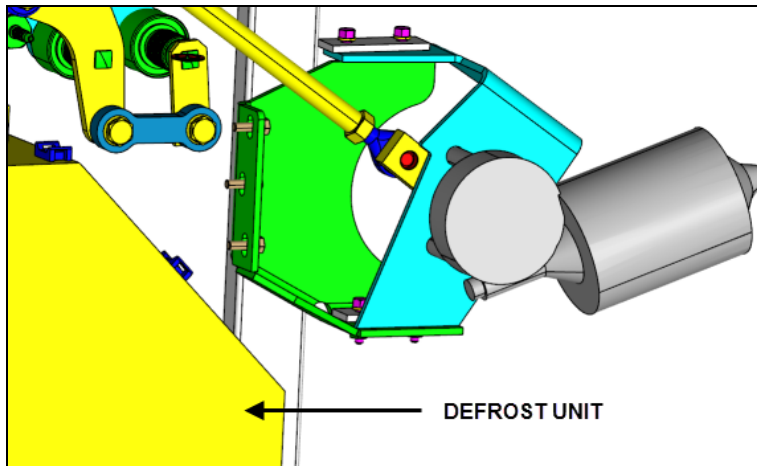

FIGURE 7: WIPER MOTOR SEEN FROM THE OPENING
5. The wiper motor is mounted on a steel plate with three cap screws. Cap screw head is accessible from the other side of the steel plate (refer to figure 7 & 8).